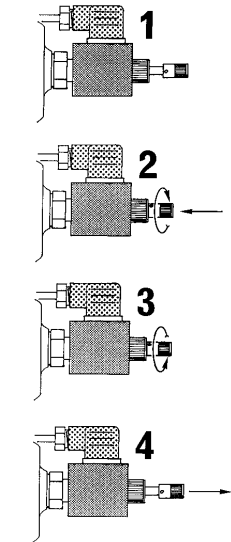

fig. 10b
- (!) On the distributor it has been installed an electro-valve with a manual locking function (fig.10-10a) which allows to reactivate all the crane functions in case of absence of the electric power. Only in these conditions it is permitted to remove the lead seals which protects the device. Push the button and turn it into the clockwise sense (fig. 10b pos. 1-2); the button stays in stable and closed position.
- (!) When the electric power is reestablished, remember to put the button in its original position, turning it into the anti-clockwise sense. (Fig. 10b pos. 3-4)